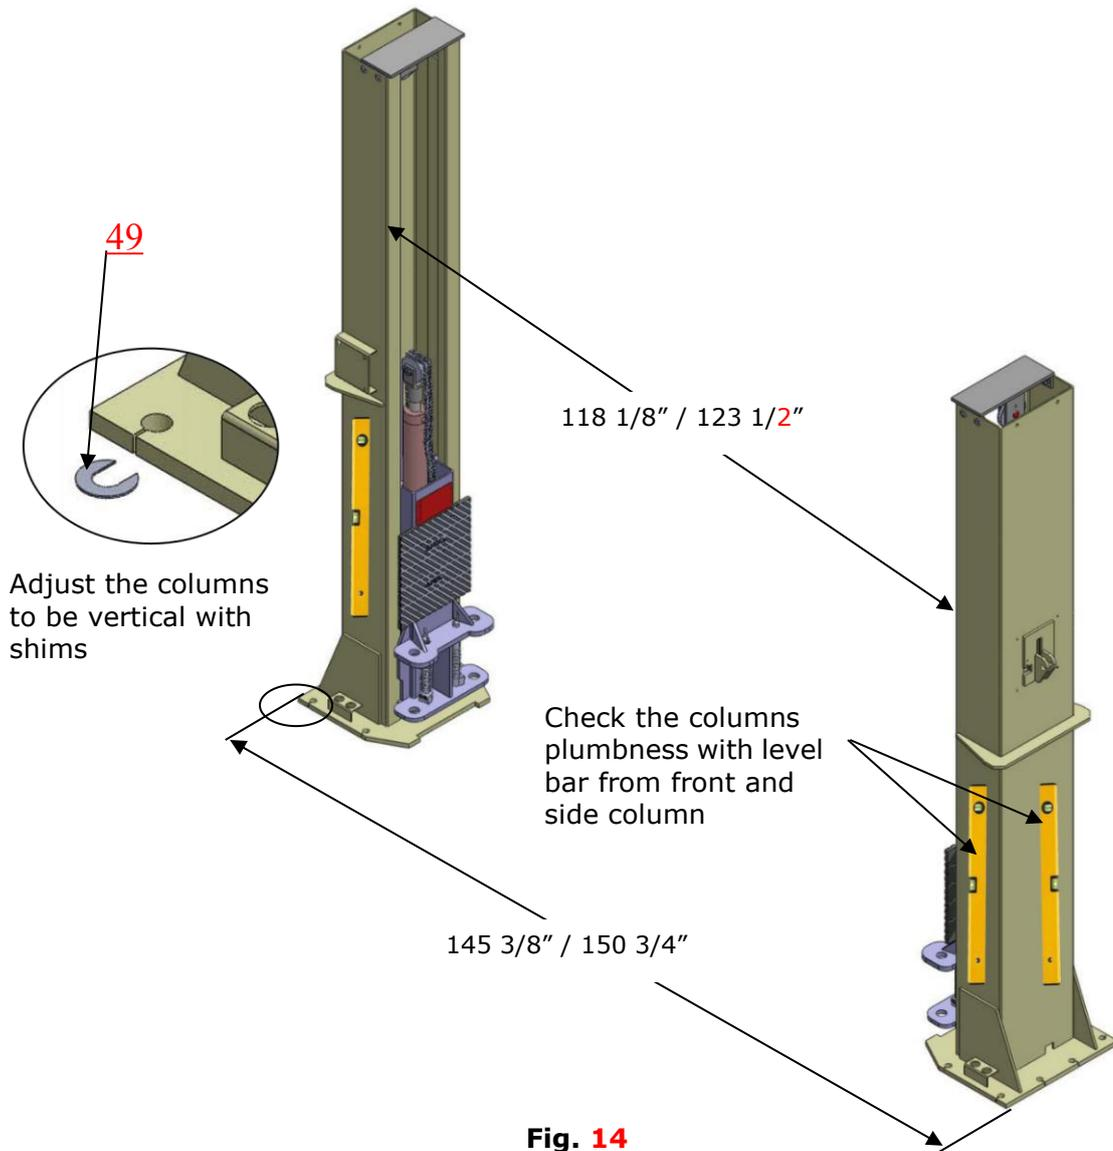
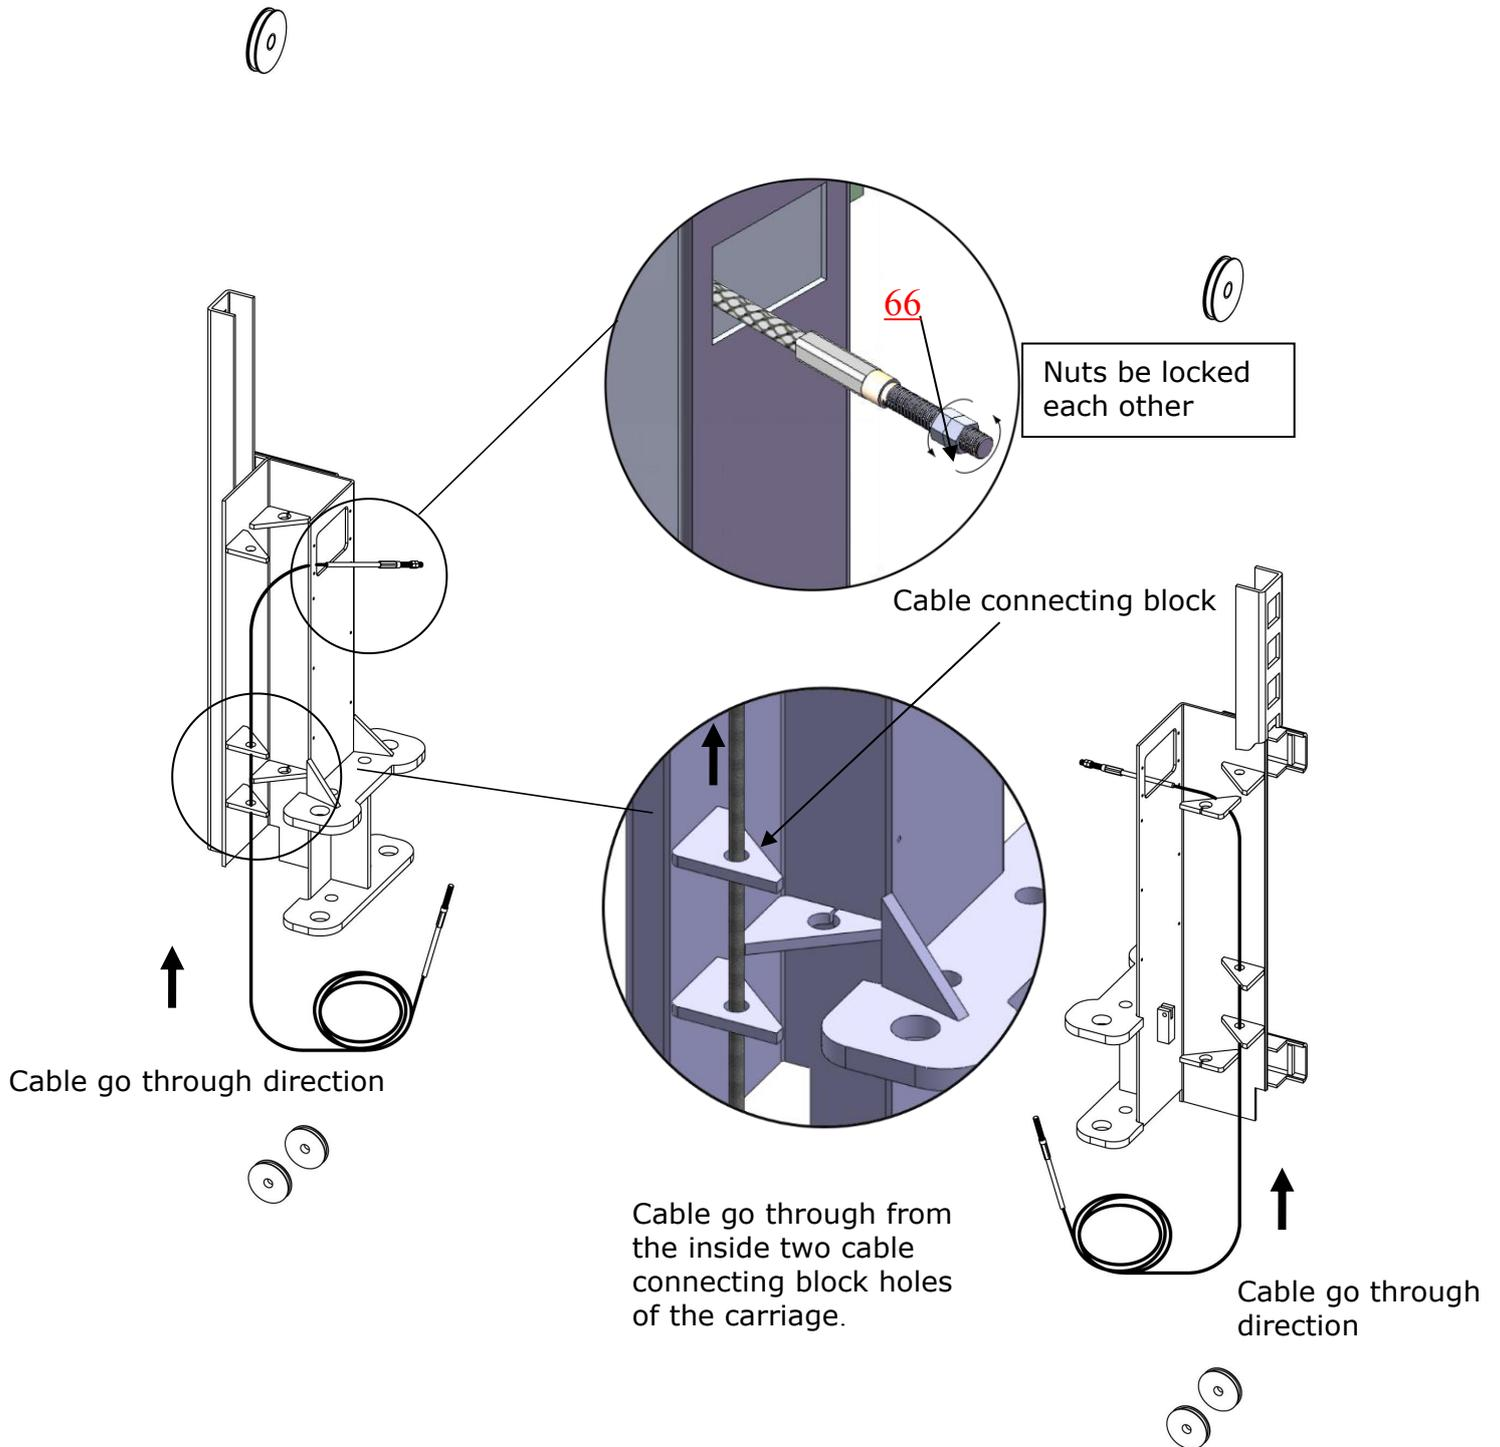
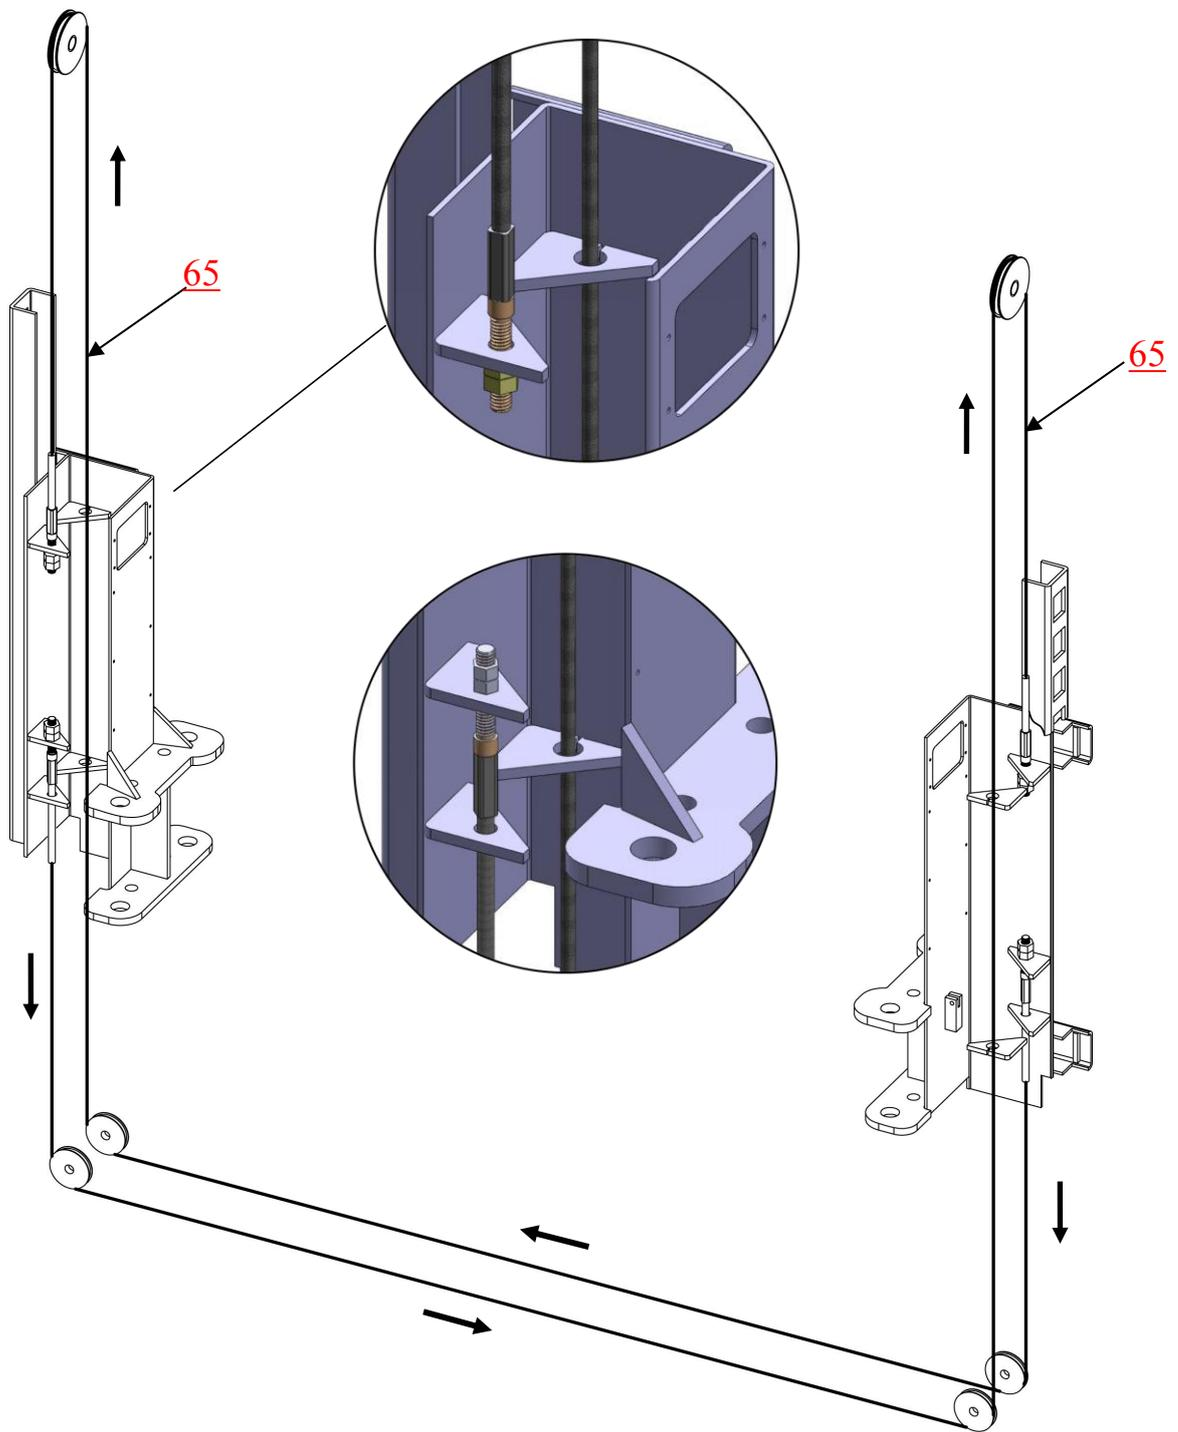

Fig. 14
Fig. 21
Fig. 22
E. Position columns and install anchor bolts (See Fig. 14)
1. Select the width of the foundation according to step E (**Fig.14**) and select the width of the foundation size 150-3/4" to install the cable (**see Fig.20**)
2. Select the width of the foundation according to step E (**Fig.14**) and select the width of the foundation size 145-3/8" vzto install the cable.(**Fig.21&Fig22**)
2.1. Cable go through from bottom to the top, tighten the two cable nuts when it pass through the opening of the carriage. (Fig.21)